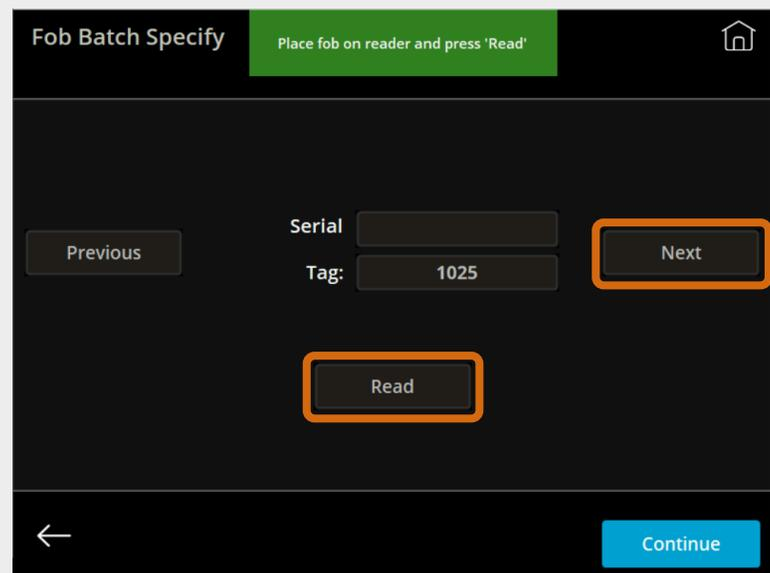

Fig. 32 – Use the fob reader to assign tags to fobs in sequence
9. Press **Read** to assign the fob serial number to the tag number specified, as shown in Fig. 32.
10. Press **Next** to read and assign the next labeled fob in the sequence, as shown in Fig. 32.